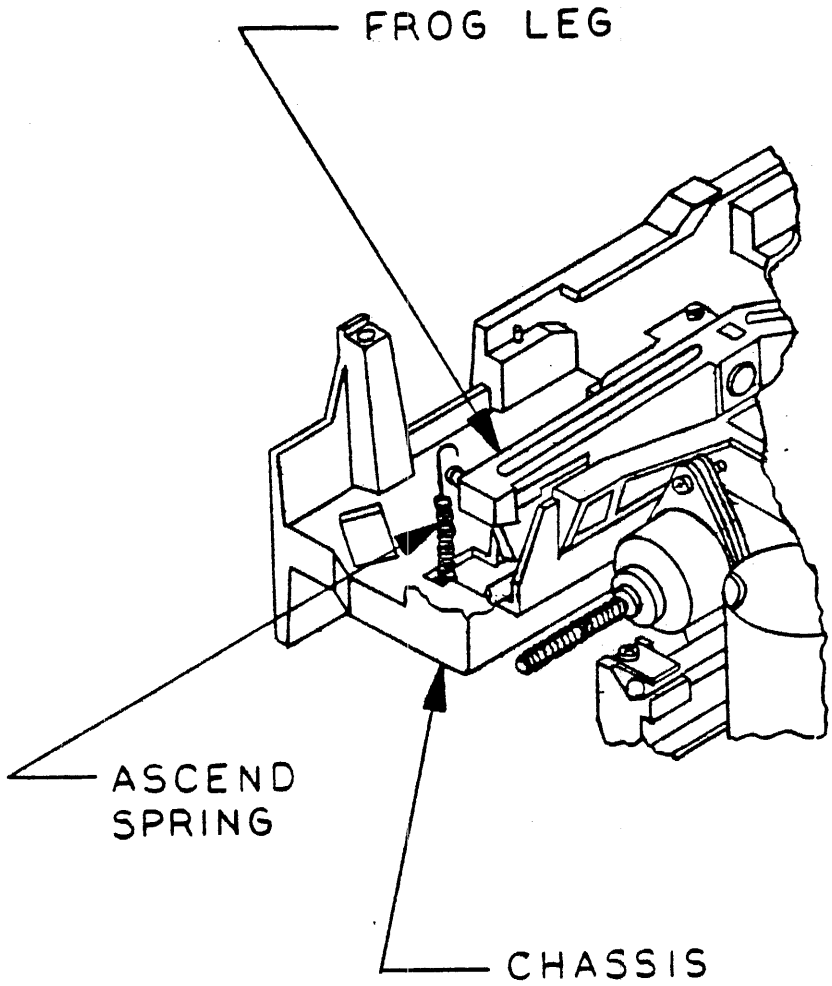

FIGURE 6. THE INSTALLATION OF THE ASCEND SPRING
- 7.6.1 Attach one end of the ascend spring to the notch in the ascend spring post on the chassis. (See Fig. 6.) Push the other end through the opening in the chassis so that the spring is hanging straight down from the post.